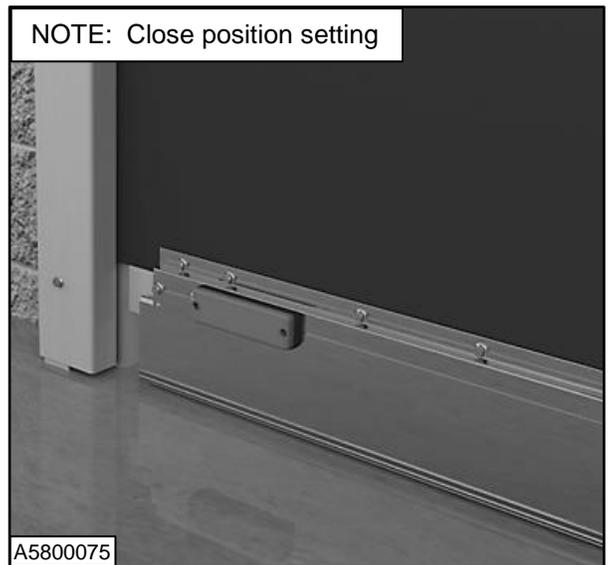

Figure 28
4. Close the door using jog mode. Lower the door panel until the bottom edge makes light contact with the floor across the entire opening. (See Figure 28)